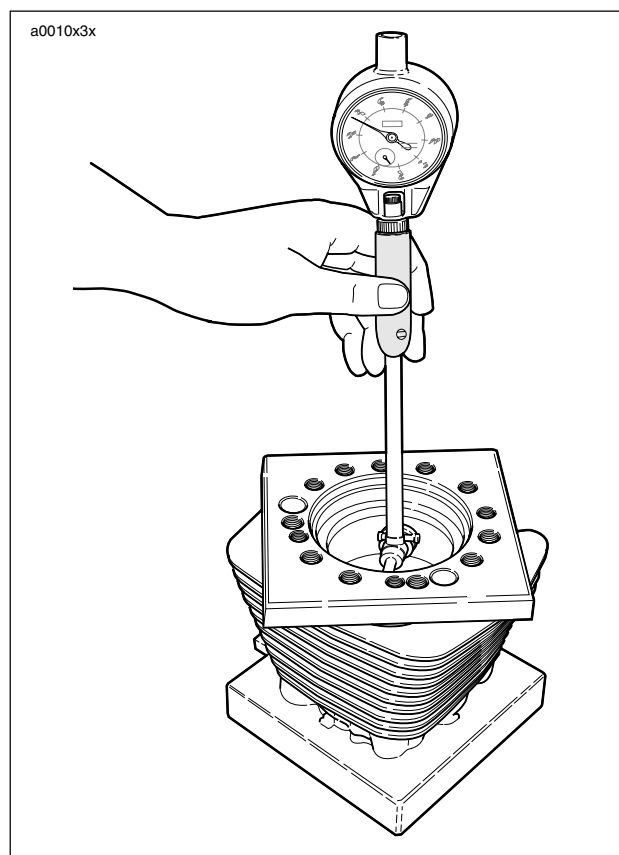

Figure 3-70. Measuring Cylinder Bore Using Torque Plates (Part No. HD-33446A)
2. See 3.5 CYLINDER HEAD. See Figure 3-70. Install a head and base gasket, and CYLINDER TORQUE PLATES (Part No. HD-33446A) and XL EVOLUTION TORQUE PLATE BOLTS (Part No. HD-33446-86). Tighten the bolts using the same method used when installing the cylinder head screws.